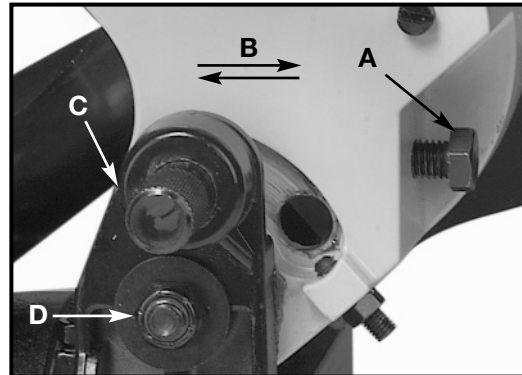

Fig. 28
The tension of the cuttinghead return spring has been adjusted at the factory in order that the cuttinghead returns to the up position after a cut has been made. To adjust the spring tension, turn adjusting screw (A) Fig. 28, clockwise to increase or counterclockwise to decrease the spring tension.
After a long period of time, an adjustment of the sliding fit between the cuttinghead arm (B) Fig. 28, and the trunnion (C) may be necessary. To adjust, tighten nut (D). Correct adjustment is a good snug sliding fit between these two parts. This adjustment should not be so tight that it restricts the sliding movement of the cuttinghead arm (B) or so loose that it affects the accuracy of the saw cut.